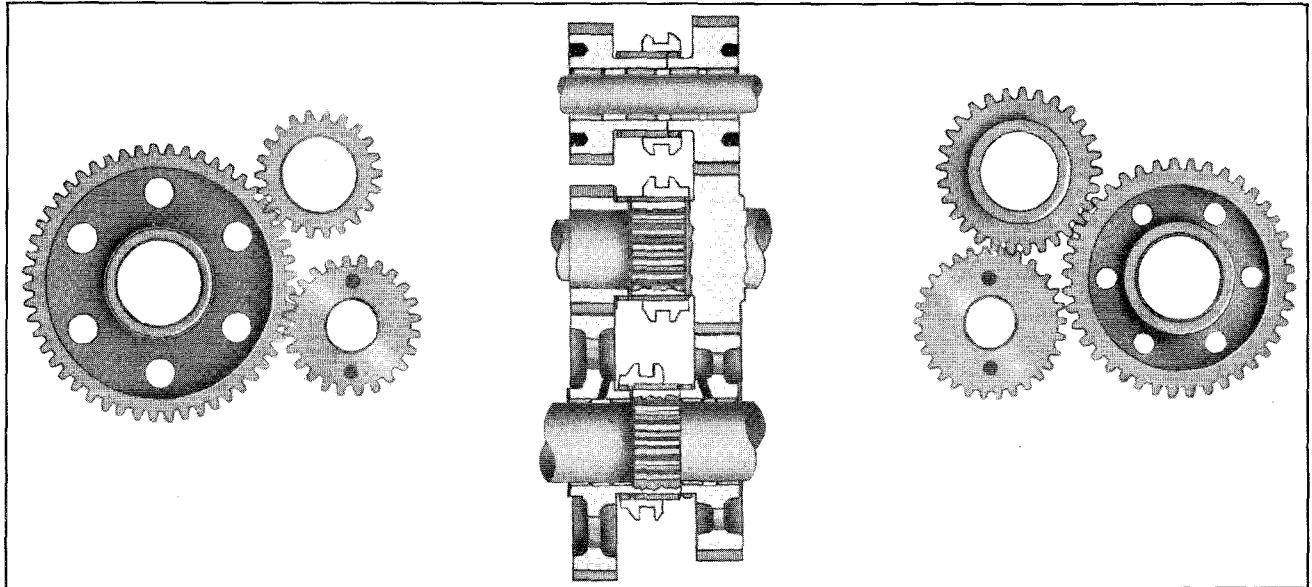

Figure 2—Arrangement of Mainshaft, Countershaft, and Reverse Idler Gears, and Sliding Clutches for Reverse Operation
For reverse operation, sliding clutches are positioned and gears are meshed as shown in figure 2. Power flow is: main drive gear (85) to countershaft drive gear (71), through countershaft to 2nd speed gear (65), to reverse idler driven gear (67) and driving gear (64), to mainshaft 1st speed gear (9), through sliding clutch (103) to mainshaft, to angle driver gears and output shaft.